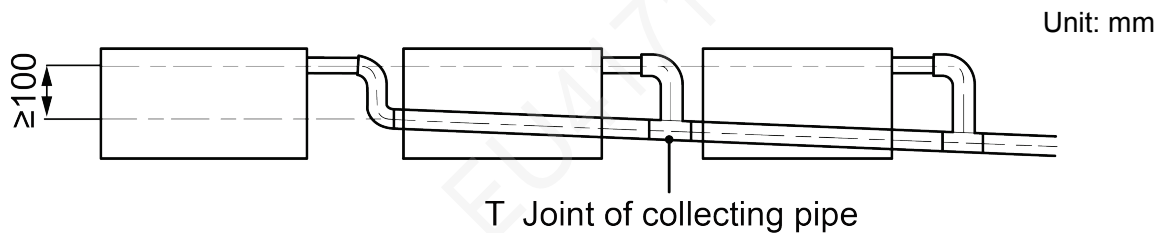

Fig 4.11
- (4) When connecting several drain pipes, follow the instruction as indicated in Fig 4.11. Choose the drain collecting pipe that matches with unit capacity.